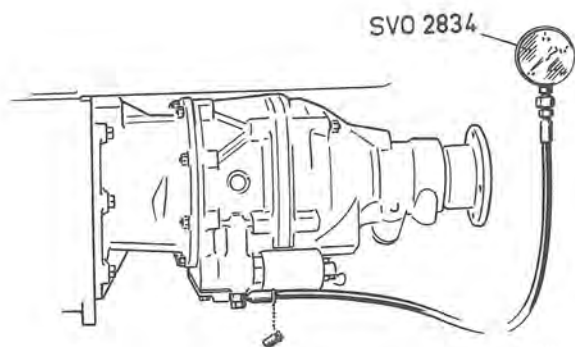

Fig. 4-45. Checking oil pressure
1. Remove the plug under the operation valve and connect the pressure gauge 2834, see Fig. 4-45.